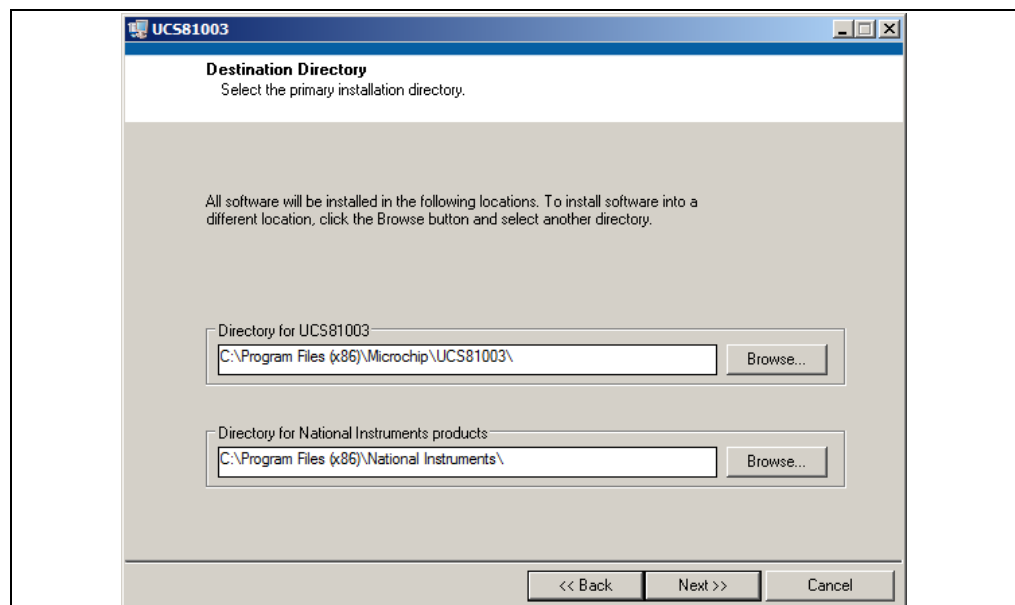

FIGURE 2-7: Software Installation – Setting the Destination Directory.
2. Click **Next** in the Destination Directory window, as shown in Figure 2-7. For proper operation, the files must be installed in the default locations. The default location for the software files is `C:\Program Files(x86)\Microchip\UCS81003\`, while for the LabVIEW software is `C:\Program Files(x86)\National Instruments`.